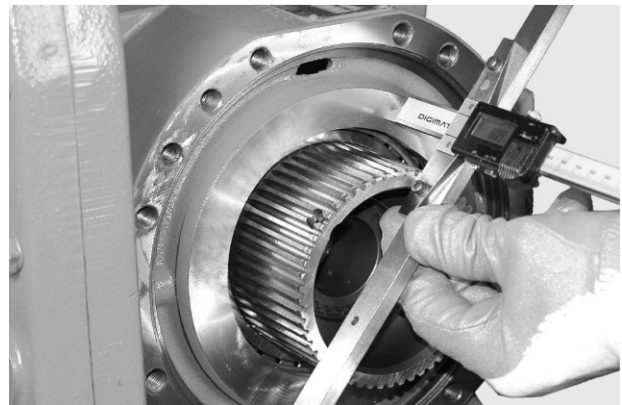

Fig 21.
- 8 Move the depth gauge onto the brake pack contact face on the differential carrier housing. Make a record of the value A. ⇒ Fig 21. \(□ G-10\).